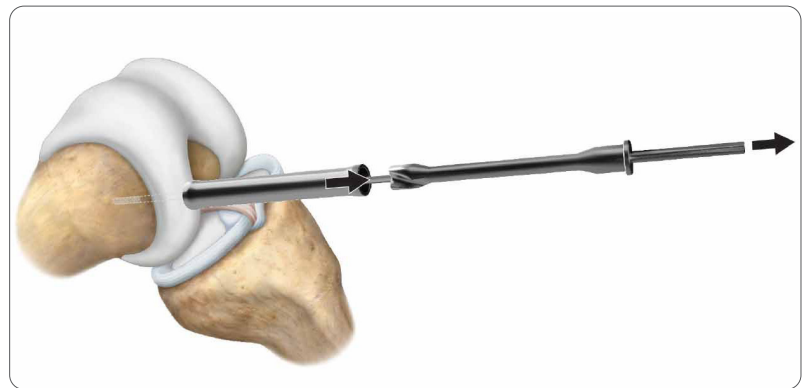

Figure 6
6. Remove the Drill Bit and Drill Sleeve, the K-wire remains in place (**Figure 6**).